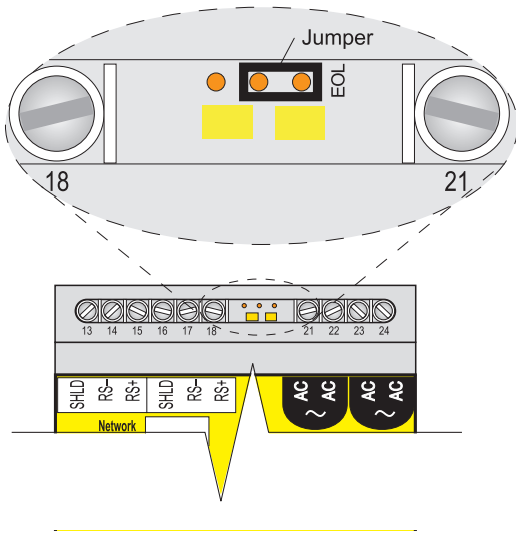

Figure 5a. End of Line Jumper for last TTSIM
- On the last TTSIM-2 in the circuit, place the jumper as shown in Figure 5a.